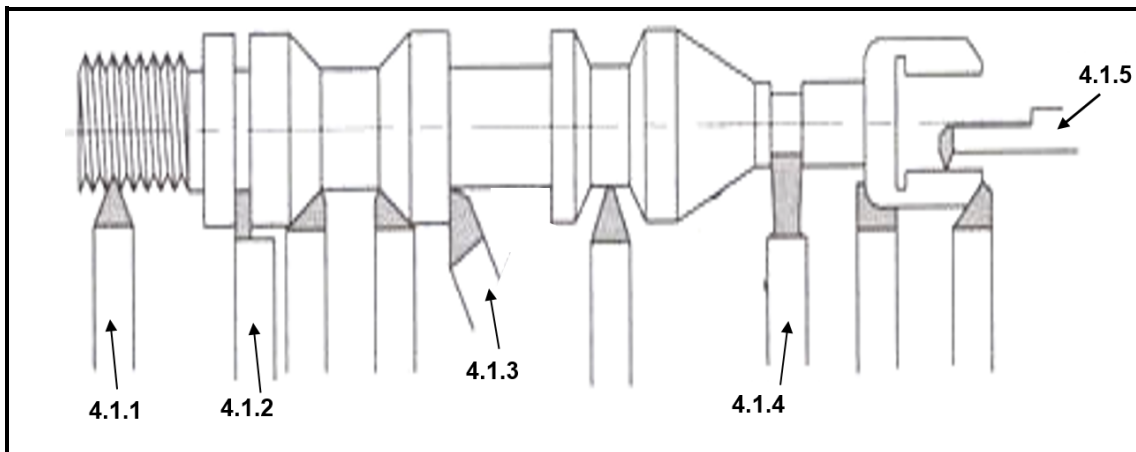

FIGURE 3
4.1 FIGURE 3 below shows different centre lathe tip tools. Label the tip tools by writing only the answer next to the number (4.1.1–4.1.5) in the ANSWER BOOK. (5)